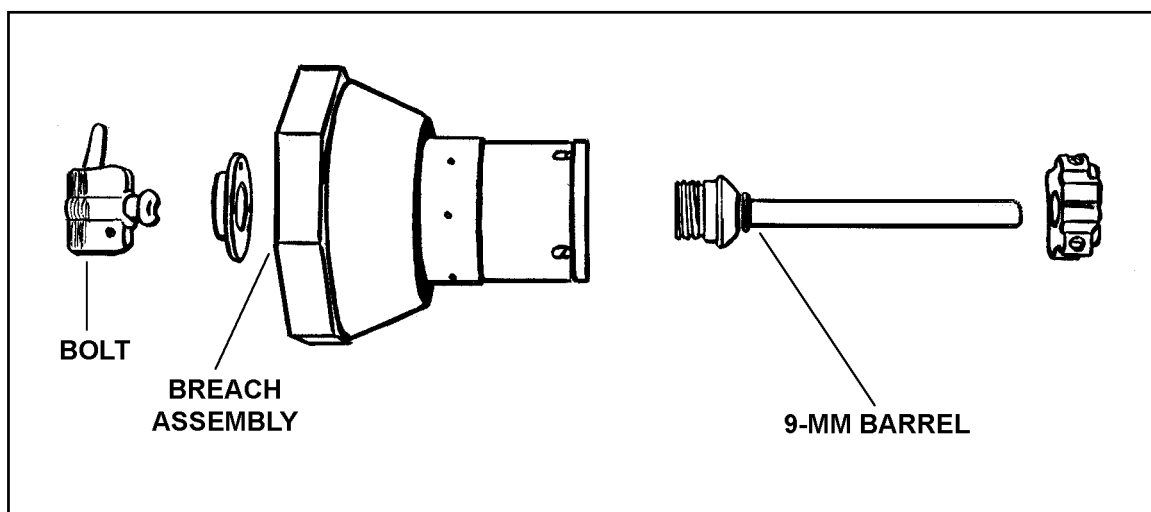

Figure B-6. M287 barrel assembly and components.
(1) The M287 may be fired at stationary or moving targets. Before it can be fired at a target tank occupied by personnel, the parts of the tank that could suffer damage must be shielded. The local TSC can provide specifications for modifying tanks to be used as targets for the M287 tracer trainer.
(2) Unlike the M136 AT4 itself and the FHT, the M287 has no band between the front and rear sights. The trainer has a 9-mm submachine gun barrel, a breach assembly, and a bolt (Figure B-6). The bolt is easily removed to load the 9-mm cartridges and to inspect the barrel for obstructions.